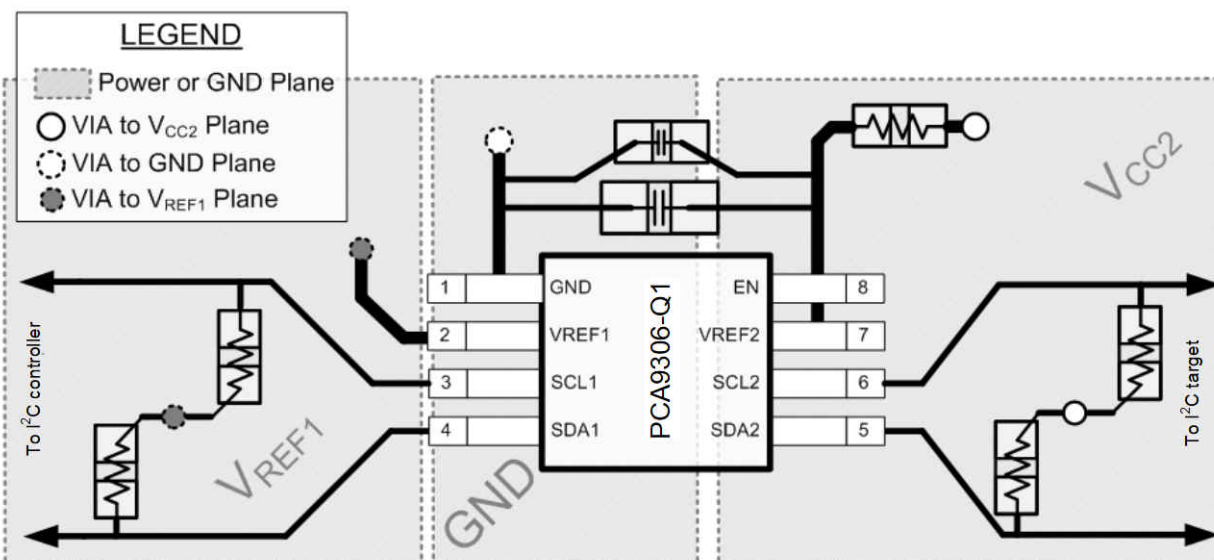

图 12-1. PCA9306-Q1 Layout Example
In all PCB layouts, it is a best practice to avoid right angles in signal traces, to fan out signal traces away from each other upon leaving the vicinity of an integrated circuit (IC), and to use thicker trace widths to carry higher amounts of current that commonly pass through power and ground traces. The 100-pF filter capacitor must be placed as close to V_{REF2} as possible. A larger decoupling capacitor can also be used, but a longer time constant of two capacitors and the 200-k Ω resistor results in longer turnon and turnoff times for the PCA9306-Q1 device. These best practices are shown in 图 12-1.
For the layout example provided in 图 12-1, it would be possible to fabricate a PCB with only two layers by using the top layer for signal routing and the bottom layer as a split plane for power (V_{CC}) and ground (GND). However, a four-layer board is preferable for boards with higher-density signal routing. On a four-layer PCB, it is common to route signals on the top and bottom layer, dedicate one internal layer to a ground plane, and dedicate the other internal layer to a power plane. In a board layout using planes or split planes for power and ground, vias are placed directly next to the surface-mount component pad, which must attach to V_{CC} or GND, and the via is connected electrically to the internal layer or the other side of the board. Vias are also used when a signal trace must be routed to the opposite side of the board, but this technique is not demonstrated in 图 12-1.